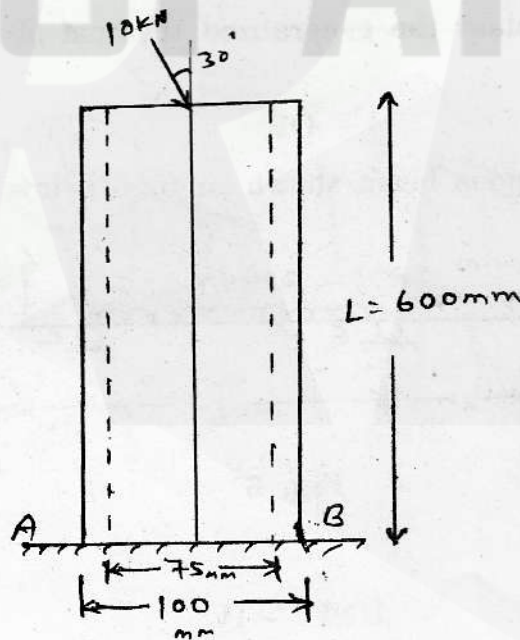

Fig. 4
- (b) A short hollow cylindrical column shown in figure 4 below is acted by a load of 10 kN inclined at 30° to the column axis. Calculate the maximum tensile and compressive stresses set up in the base AB of the column.